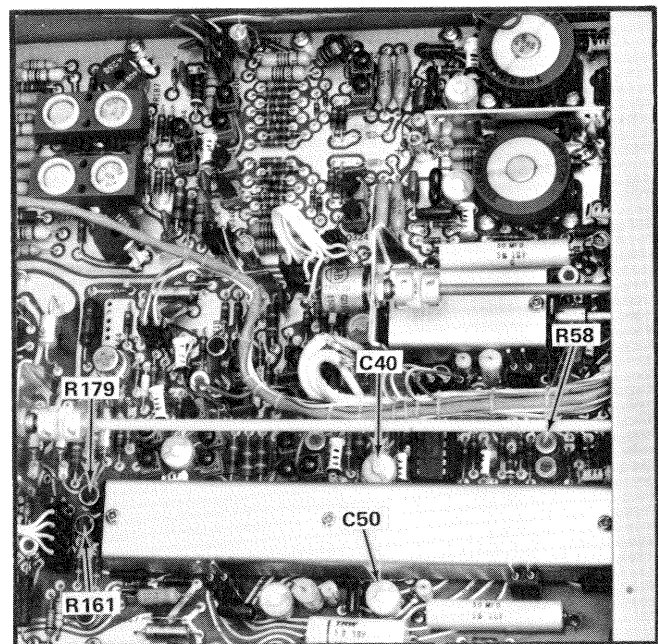

Fig. 5-10. Pulse period and pulse duration adjustments.
e. ADJUST—The selected PERIOD and/or PULSE DURATION adjustments as listed in Table 5-3 and shown in Fig. 5-10 for optimum period and duration accuracy.